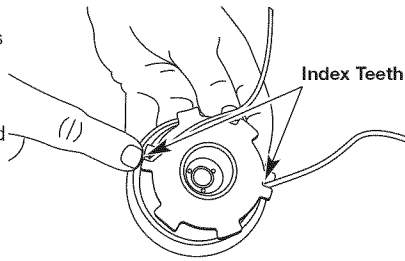

Fig. 19
12. Insert the split ends of the line into the two holding slots (Fig. 19).